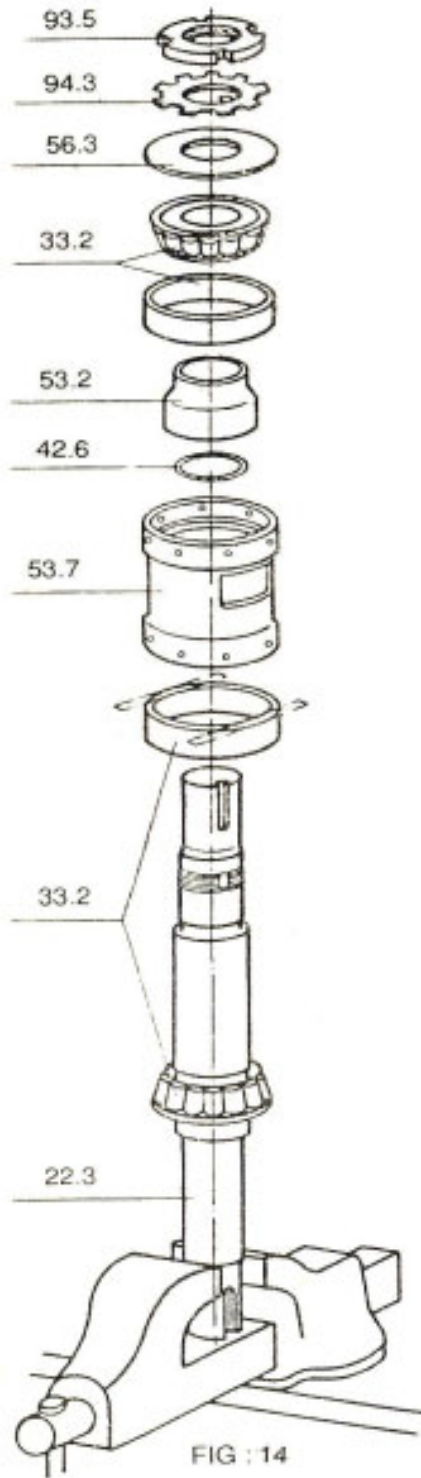

FIG : 14
1.7 Place the shaft, partly carried into bearings during stage 1, in the vise as shown in fig : 14